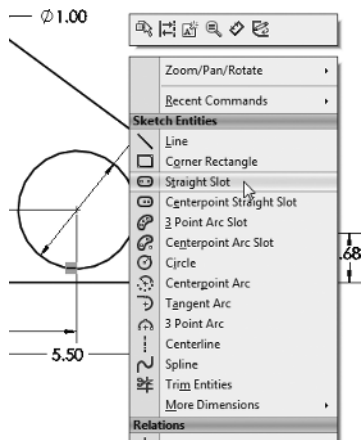

FIGURE 1.35 Shortcut menu available with right mouse button
3. Select a menu item with the left mouse button (see Figure 1.35).